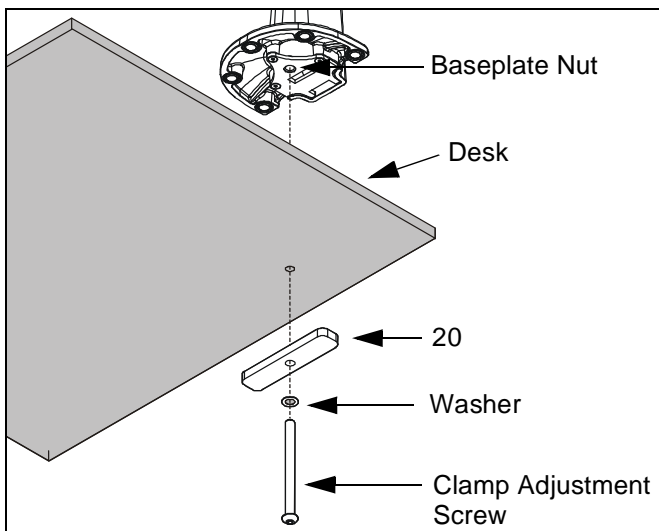

Figure 8: Desk Mount - Hole Installation
- From below desk, insert retained clamp adjustment screw and washer through bracket (20) and up through hole in desk (See Figure 8). Using 3/16" hex key, thread screw into baseplate nut but do not tighten completely at this time.